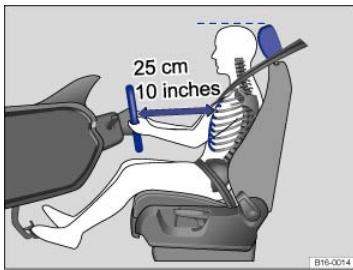
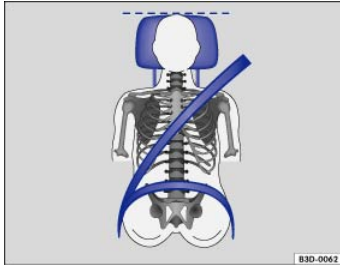

Fig. 39 The driver should never sit closer than 10 inches (25 cm) from the steering wheel.
Fig. 40 Proper safety belt positioning and head restraint adjustment.
- Adjust head restraints so that the upper edge of the head restraint is at least at eye level or higher. Position the back of your head as close as possible to the head restraint ⇒ *Fig. 39* and ⇒ *Fig. 40*.
- Adjust the steering wheel so that there are at least 10 inches (25 cm) between the steering wheel and your breast bone ⇒ *Fig. 39*. When adjusting the proper distance to the steering wheel, grasp the top of the steering wheel with your elbows slightly bent.